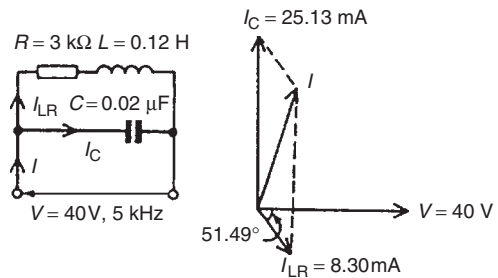

Figure 16.8
The circuit diagram is shown in Fig. 16.8(a).
- (c) Currents I_{LR} and I_C are shown in the phasor diagram of Fig. 16.8(b). The parallelogram is completed as shown and the supply current is given by the diagonal of the parallelogram. The current I is measured as **19.3 mA** leading voltage V by **74.5°**. By calculation,